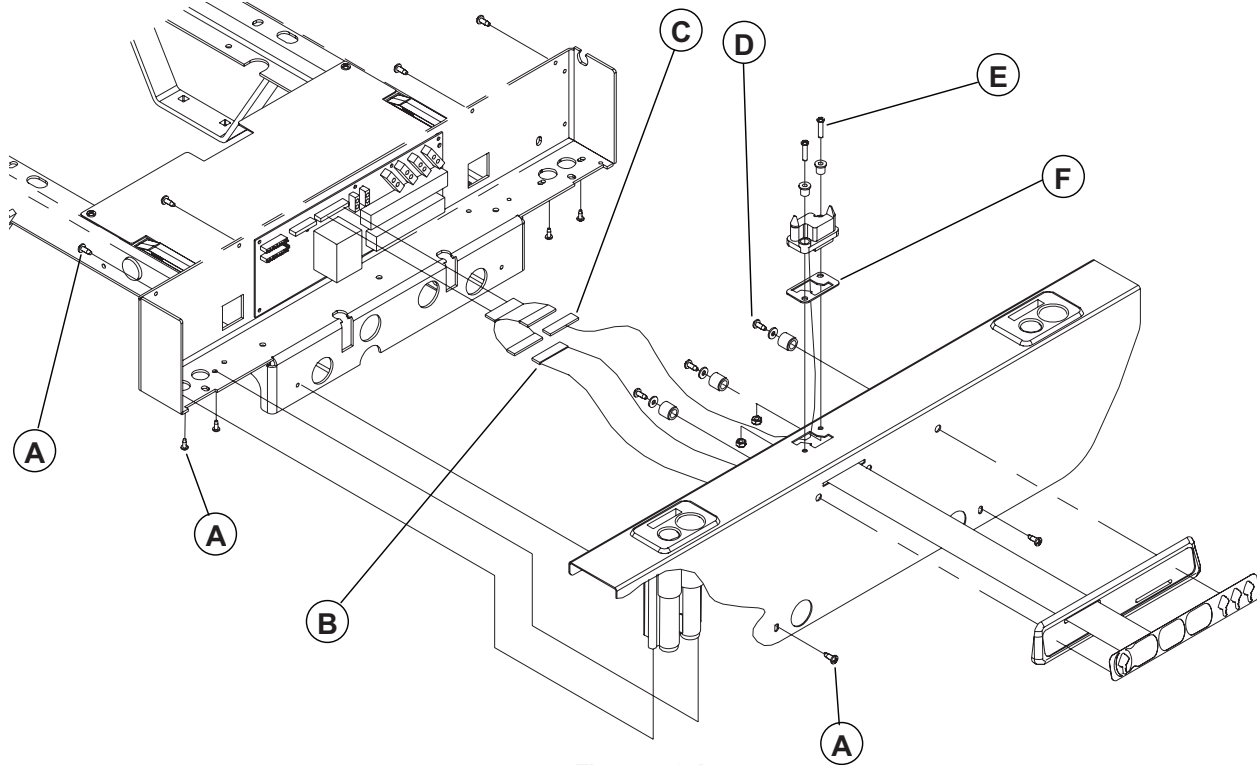

Figure 4.2 A
7. Using the No. 2 Phillips screwdriver, remove the 10 screws (A, Figure 4.2 A, pg. 32) holding the cover as well as the two I.V. poles to the foot box. Raise and remove the cover taking care to disconnect the electronic board first, the cable (B, Figure 4.2 A, pg. 32) of the control panel and, if applicable, the cable (C, Figure 4.2 A, pg. 32) of the connector from the foot box (optional).
8. Using the No. 2 Phillips screwdriver, remove the four screws (D) holding the two parts of the plastic cover over the siderail mechanism. Remove cover.
9. Using the two 1/2" combination wrenches, remove locknut, shoulder spacer and bolt (J) holding the locking hook to the plate. Remove hook.